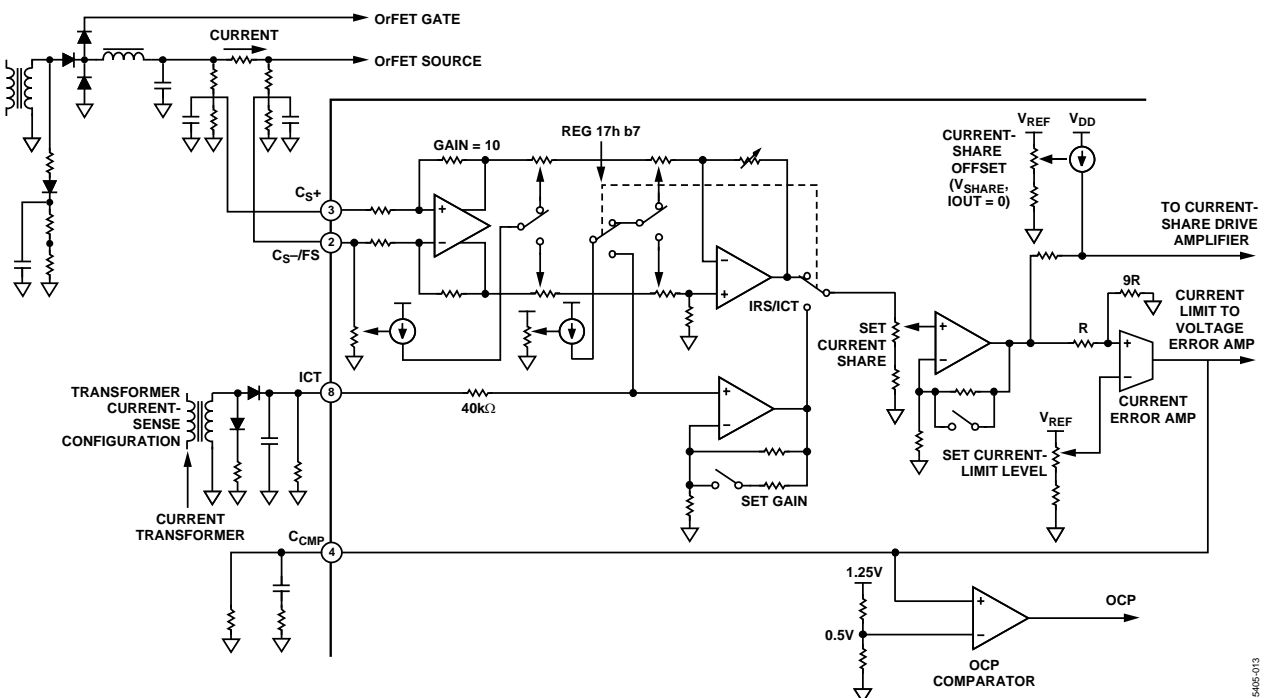

Figure 13. Current Sense
A 1.5 V reference is connected to the inverting input of the voltage error amplifier. This 1.5 V reference is the output voltage of the soft-start circuit. Under closed-loop conditions, the voltage at the noninverting input is also controlled to 1.5 V. During start-up, the output voltage should be ramped up in a linear fashion at a rate that is independent of the load current. This is achieved by digitally ramping up the reference voltage by using a counter and a DAC. The ramp rate is configurable via the SMBus. See Figure 13.
This is a two-stage differential amplifier that achieves low offset and accuracy. The amplifier has the option to be chopped to reduce offset or left as a linear amplifier without chopping. Refer to the Register Listing for more details. The amplifier's gain can be selected from three ranges. It is followed by a trim stage and then by a low gain buffer stage that can be configured with a gain of 1.0 or 2.1. The result is a total of six overlapping gain ranges (65 to 230), one of which must be selected via the SMBus. This gives ample adjustment to compensate for the poor initial tolerance of the resistance wires typically used for current sensing. It also allows selecting a higher sensitivity for better efficiency or a lower sensitivity for better accuracy (lower offset). The amplifier offset voltage is trimmed to zero in a once-off operation via the SMBus and uses a voltage-controlled current source at the output of the first gain stage. A second controlled current source is used to trim out the additional offset due to the mismatch of the external divider resistors. This offset trim is dynamically adjusted according to the common-mode voltage present at the top of the voltage dividers. Six ranges are selectable according to the magnitude and polarity of this offset component. Because the offset compensation circuit itself has some inaccuracies, the best overall current-sense accuracy is obtained by using more closely matched external dividers and then selecting a low compensation range. See Figure 13.
Current is typically sensed by a low value resistor in series with the positive output of the power supply, positioned just before the OrFET or diode. For high voltages (12 V and higher), this resistor is usually placed in the negative load. A pair of closely matched voltage dividers connected to Pins 2 and 3 divide the common-mode voltage down to approximately 2.0 V. The divider ratio must be the same as used in the local and remote voltage-sense circuits. Alternatively, current may be sensed by a current transformer (CT) connected to Pin 8. The ADM1041A must be configured via the SMBus to select one or the other. See Figure 13.
required. It is possible to fine trim this current via Register 15h, Bits 4–0, step size 170 nA. For example, 2.5 μA ≈ 15 × 170 nA; so the code for Register 15h is decimal 15 or 0Fh. Refer to the Current Transformer parameter in the Specifications table for more details. See Figure 13.
This is a low gain transconductance amplifier that takes its input from one of the calibrated current stages described previously. The amplifier requires only the output pin for loop compensation, which typically consists of a series RC network-to-common. A trimmable reference provides a wide range of adjustment for the current limit. When the current signal reaches the reference voltage, the output of the error amplifier comes out of saturation and begins to drive a controlled current source. The control threshold is nominally 1.0 V. This current flows through a resistor in series with the trimmed voltage loop signal and thereby attempts to increase the voltage signal above the 1.5 V reference for that loop. The closed voltage loop reacts by reducing the power supply’s output voltage and this results in constant current operation. See Figure 13.